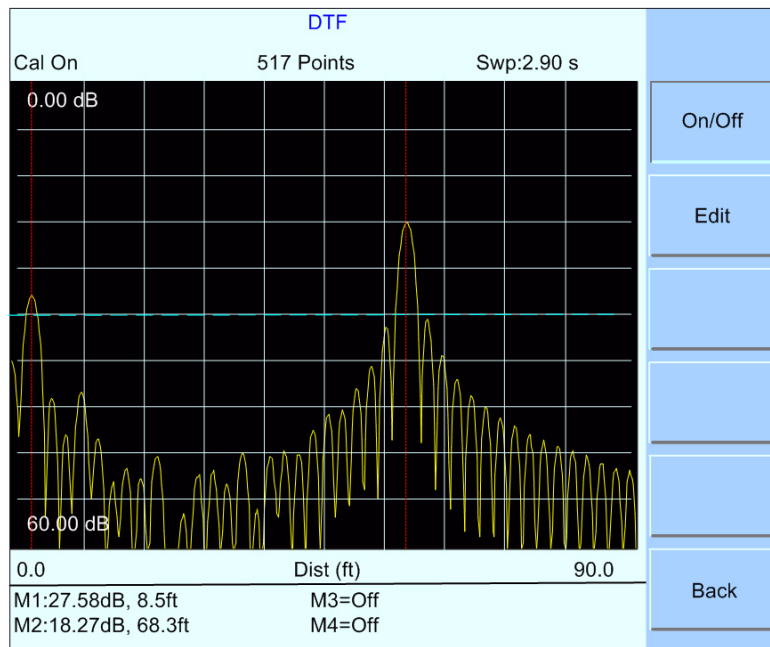
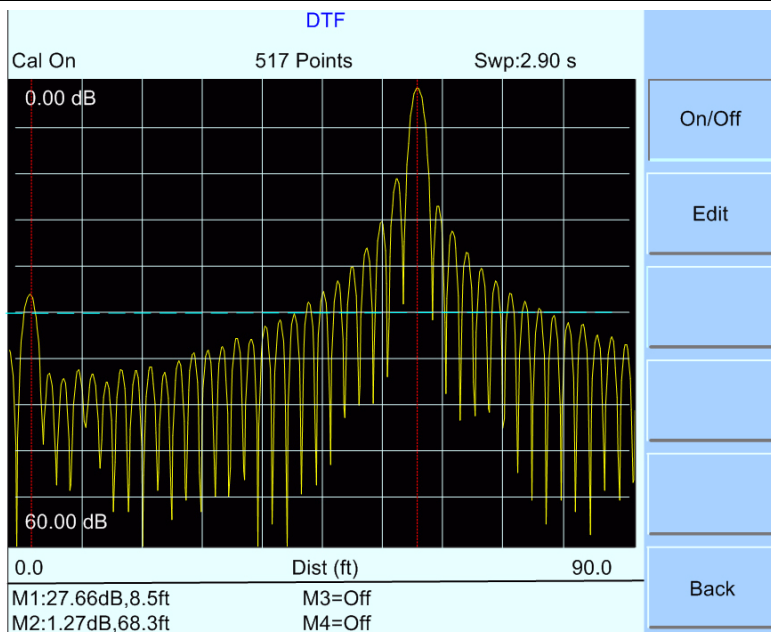

Figure DTFI-1. Transmission Line Terminated with Antenna
Figure DTFI-2. Transmission Line Terminated with a Short
8. Turn on Markers (refer to Figure DTFI-1)
The display in Figure DTFI-1 shows an 8 ft jumper cable connected to a 60 ft main line with an antenna connected to the end of the cable. The first lower connector is at 27.6 dB. This is typically not considered a passing reading. Looking at the relative data and comparing this trace with previous data would be of great value to get an idea of possible degradations over time.
The display in Figure DTFI-2 shows the exact same measurement as Figure DTFI-1, but with a short connected to the end of the cable for the main purpose of finding the length of the system.